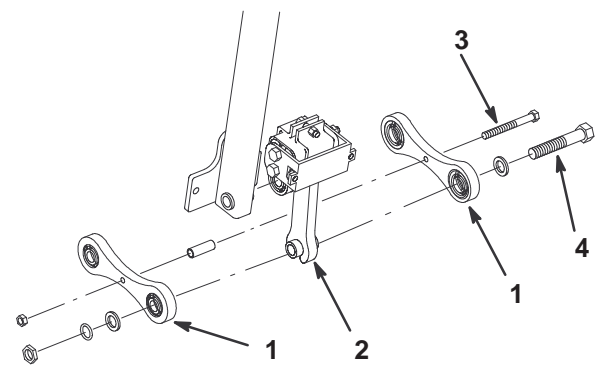

Figure 1
- Loosen bolt, spacer, and nut securing the center of bottom links together (Fig. 1).
- Remove bolt, flat washer, and lock washer securing bottom links to Rotalink arm (Fig. 1).
1. Install bolt, flat washer, and lock washer securing bottom links to Rotalink arm (Fig. 1). Torque bolt to 150 ft.-lb. (203 N·m).